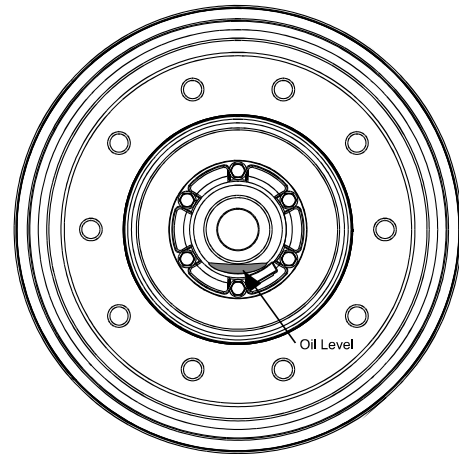

Figure 19 - Wheel Bearing Oil Level
22. With Suspension at Ride Height, check oil level through the hubcap window (**Figure 19**). If level is below the “add” level line, then fill with recommended oil until “full” level is achieved. Add oil slowly since the heavy weight oil will settle slowly in the hub. (Note: The hubcap window can only be cleaned with mild soap and water. Aromatic solvents should not be used, as they will impair the transparency of the window.)